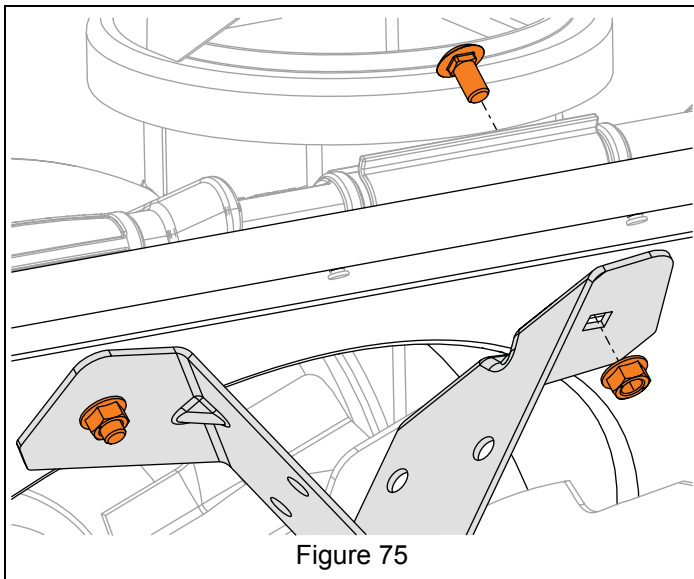

Figure 75
3. Reinstall support brackets to gearcase and secure with two external tooth locking bolts. See Figure 75.